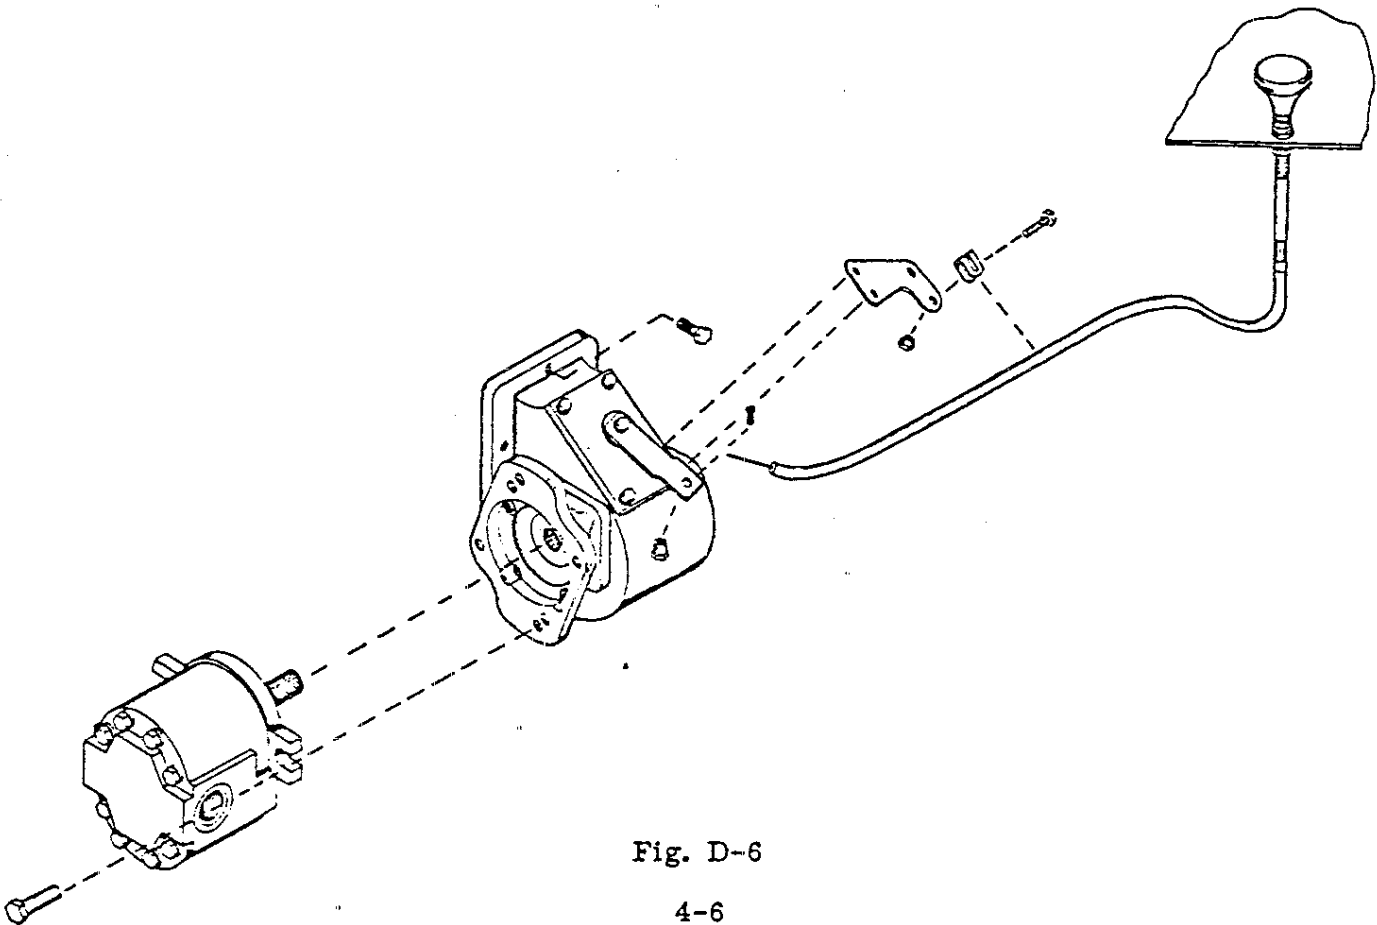
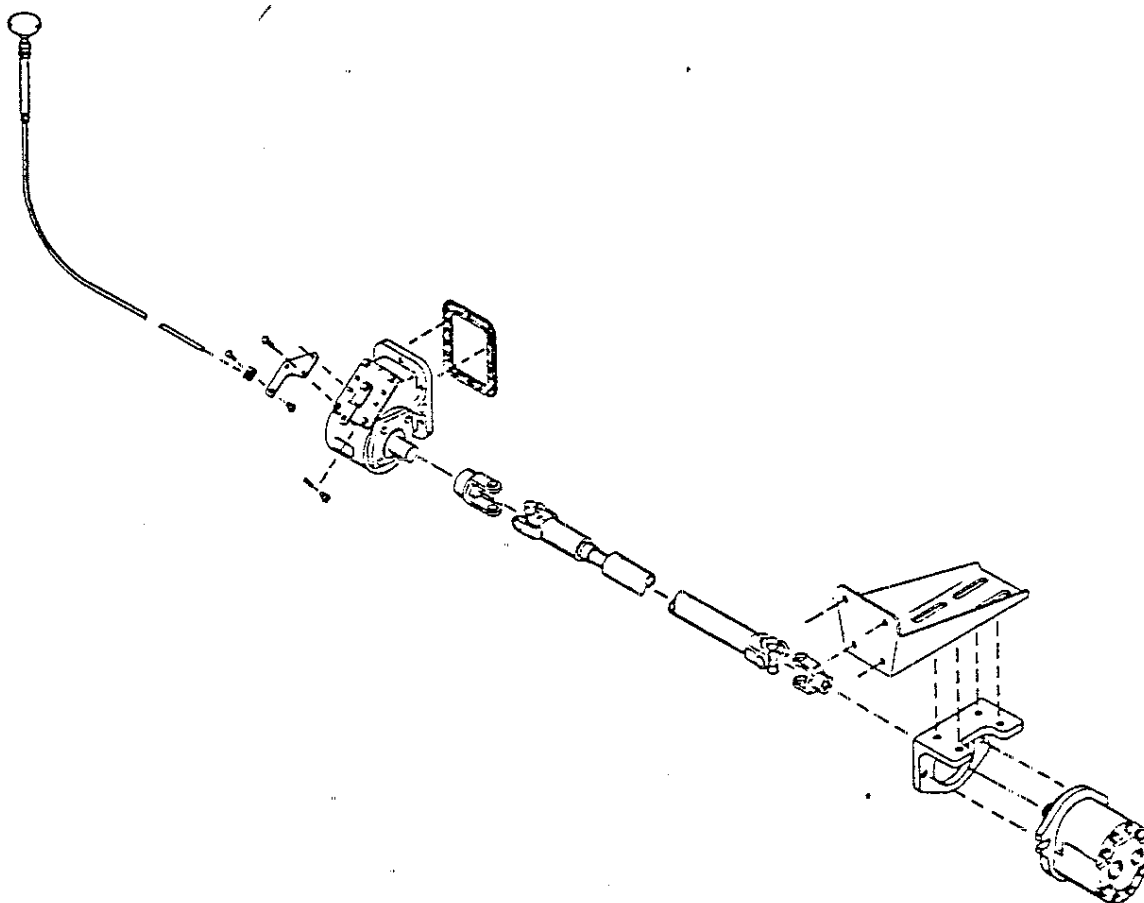

Fig. D-6
Fig. D-7
3. Install PTO in accordance with manufacturer's instructions (see Fig. D-6 or Fig. D-7 pages 4-6 or 4-7).